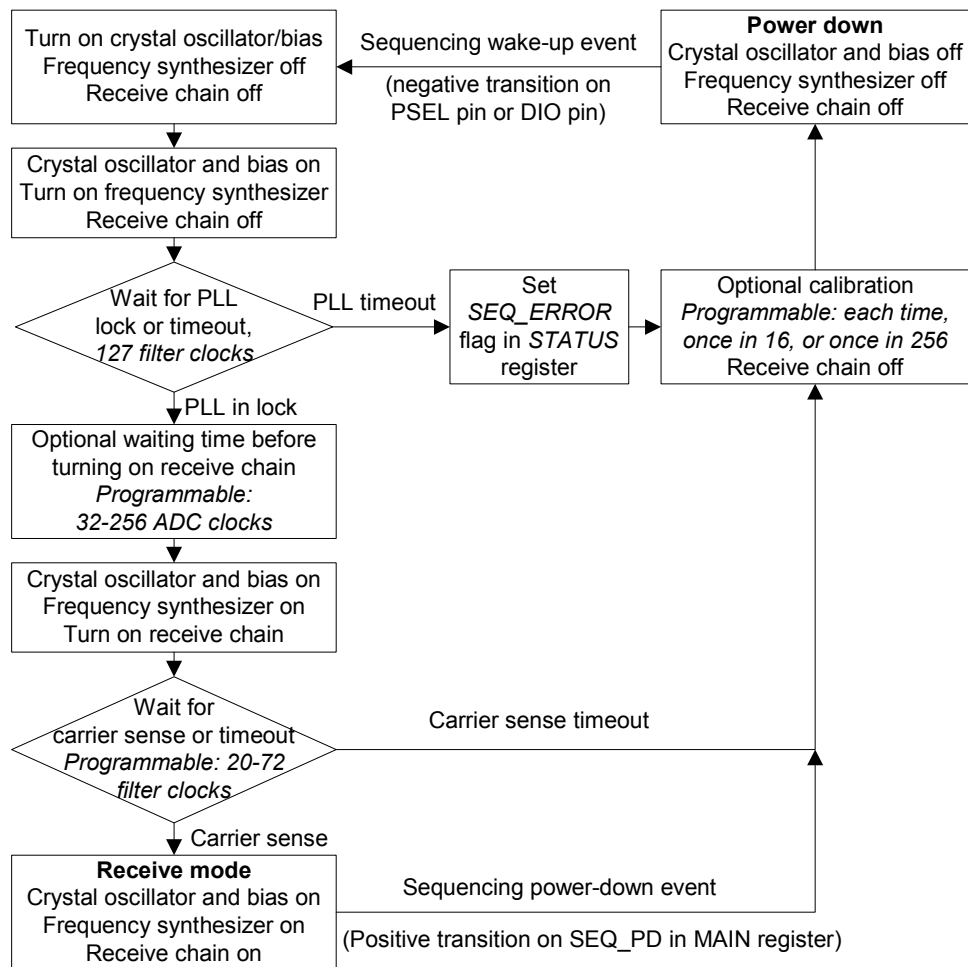

Figure 21. Automatic power-up sequencing flow chart
*CC1021* has a built-in automatic power-up sequencing state machine. By setting the *CC1021* into this mode, the receiver can be powered-up automatically by a wake-up signal and will then check for a carrier signal (carrier sense). If carrier sense is not detected, it returns to power-down mode. A flow chart for automatic power-up sequencing is shown in Figure 21.
Notes to Figure 21: